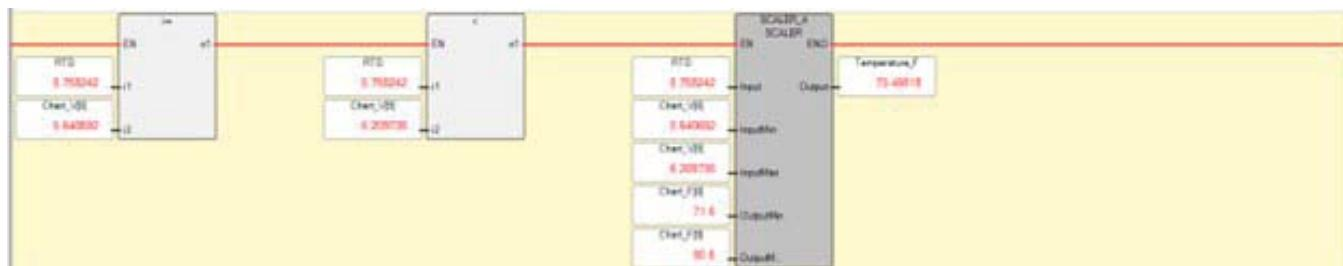

Figure 3-17. CCW Red Line Ladder Rung
- C. Observe rung 3. When the lines of the rung all display red path, similar to figure 3-17, the output turns on and the heater runs.